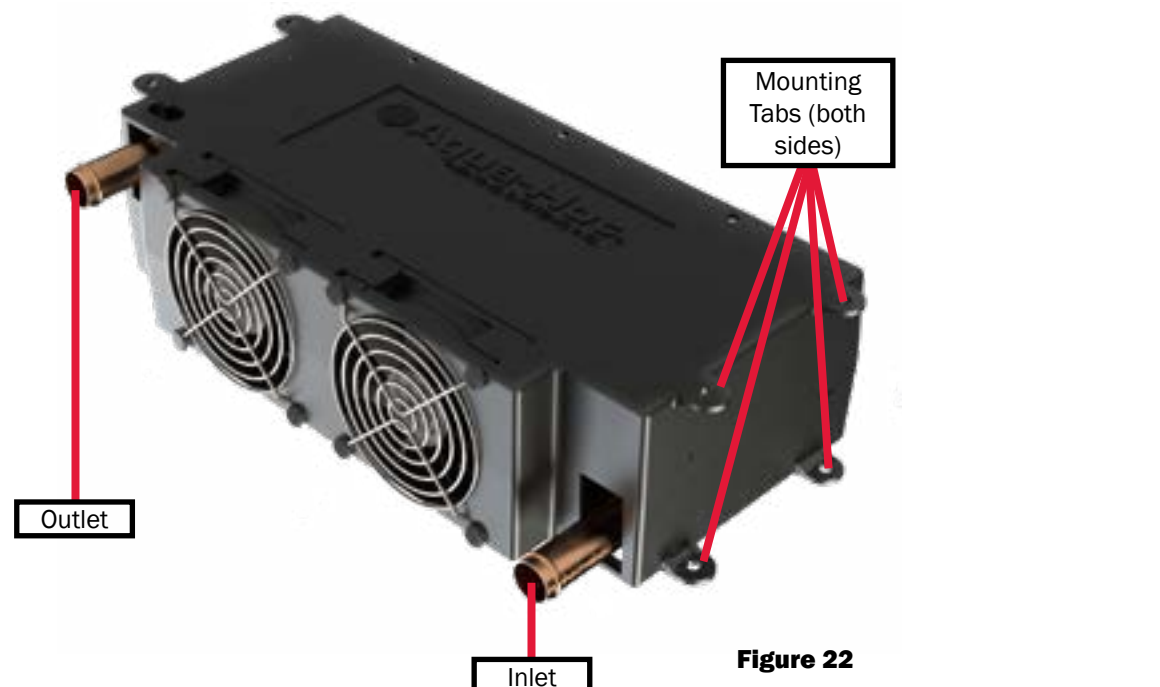

Figure 22
- The antifreeze and water heating solution must flow in through the bottom of the heat exchanger, and out the top (reference Figure 22).
- 2. Mount each heat exchanger permanently into place. There are 4 tabs on both sides - see Figure 22.